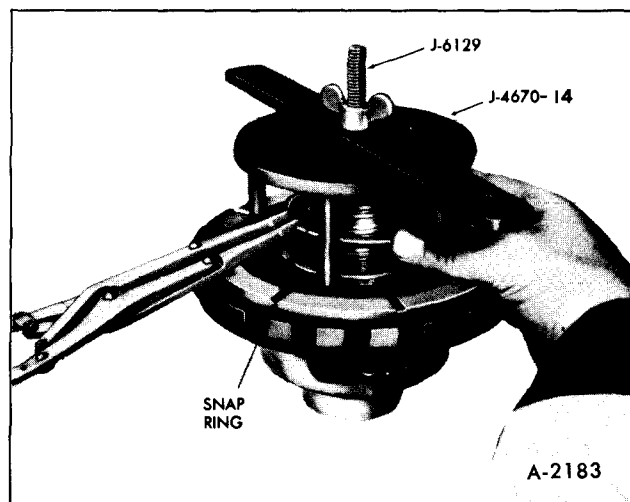

Figure 66-Removing Intermediate Clutch Retaining Snap Ring
3. Using Clutch Spring Compressor, J-4670, and Rear Clutch Spring Compressor, J-6129, Figure 66, compress spring retainer and remove snap ring with Snap Ring Pliers, J-8059 or J-5586.
6. Using Clutch Spring Compressor, J-4670, and Rear Clutch Spring Compressor, J-6129, Figure 66, compress spring retainer, being careful that retainer does not get caught in snap ring groove, and install snap ring with Snap Ring Pliers. J-8059 or J-5586. Remove tools.